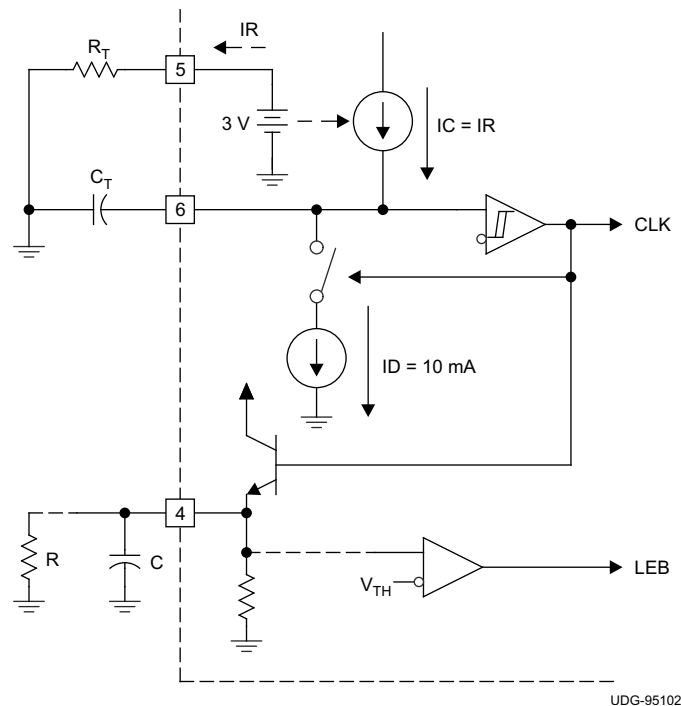
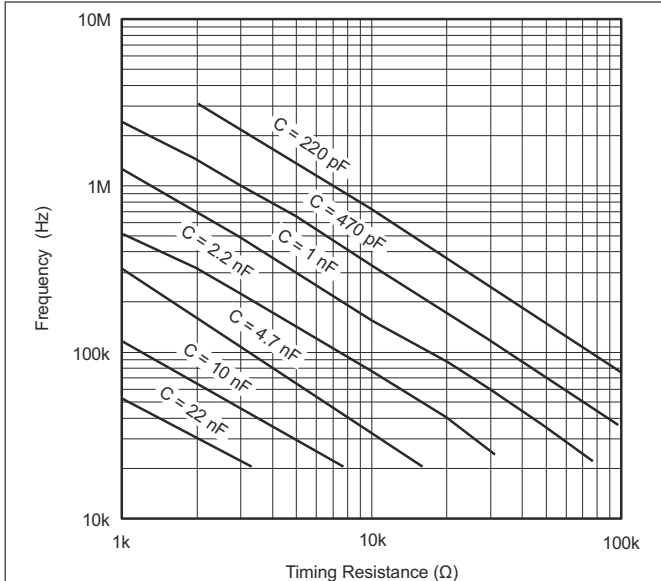
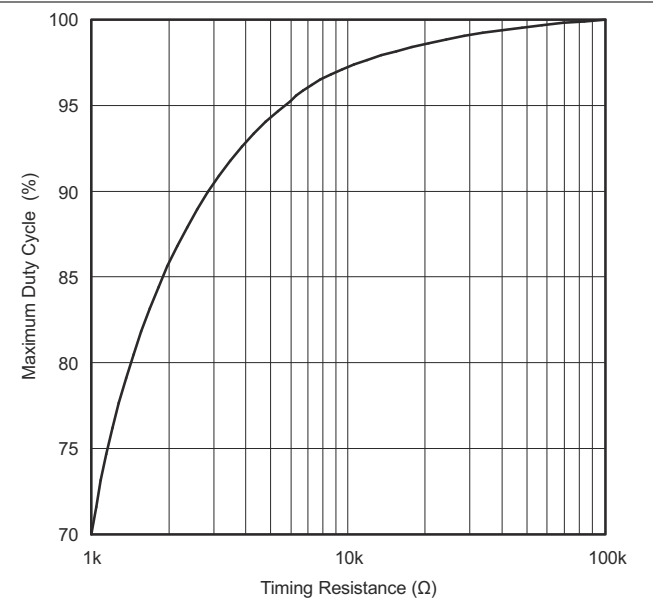

图 8-1. Oscillator
图 8-2. Oscillator Frequency vs Timing Resistance
图 8-3. Maximum Duty Cycle vs Timing Resistance
The oscillator of the UC1825B-SP is a saw tooth (see 图 8-1). The rising edge is governed by a current controlled by the RT pin and value of capacitance at the CT pin (C_{CT}). The falling edge of the sawtooth sets dead time for the outputs. Selection of RT must be done first, based on desired maximum duty cycle (see 图 8-3). CT can then be chosen based on the desired frequency (RT) and D_{MAX} (see 图 8-2). 方程式 1 shows the design equations.